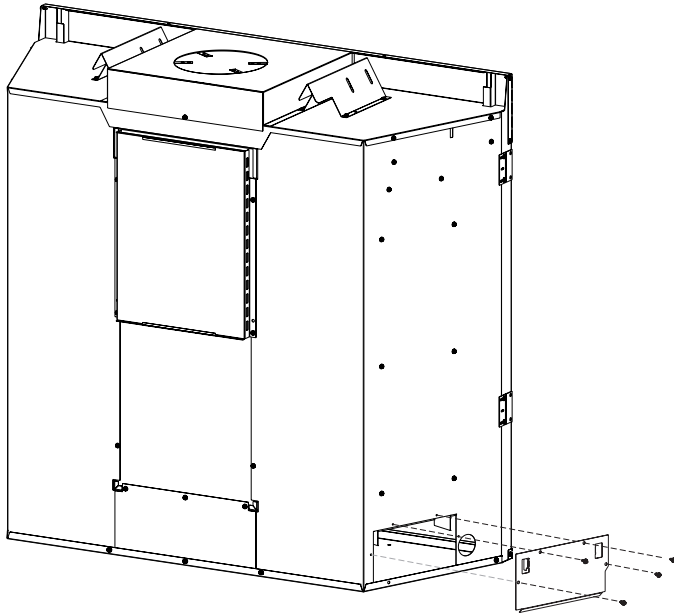

Figure 1
1. With power completely turned off, remove plate and four screws as shown. See Figure 1.